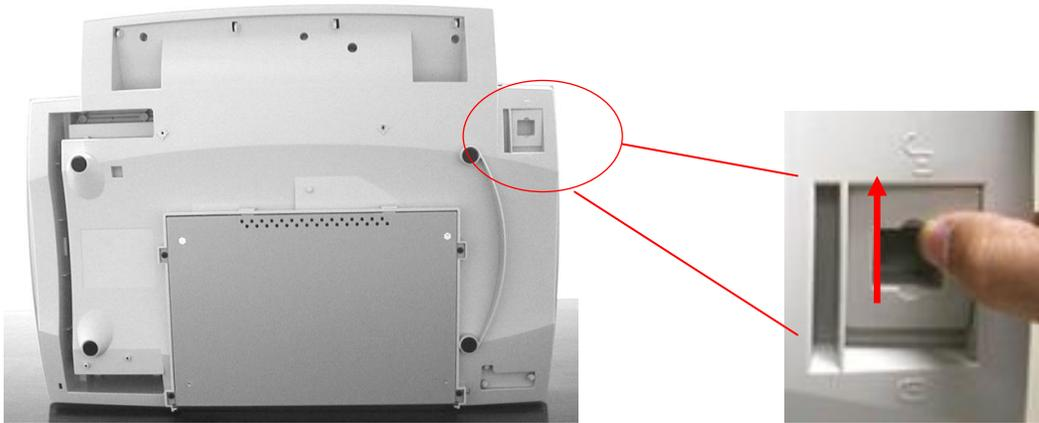

Figure 2.2 Unlock the Scanning Unit
1. Place the scanner on its side as shown in Figure 2.2